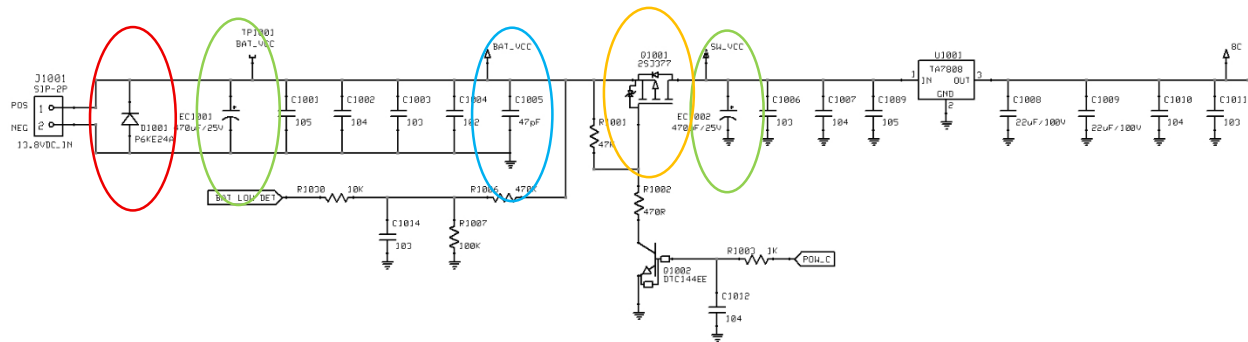
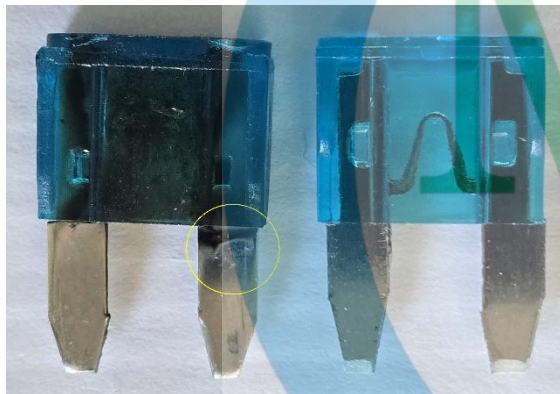

Figure 2 - Schematic diagram excerpt - power inlet and conditioning
Figure 3 - Charred fuse vs. new fuse
OK – so what damage was done to the radio? In this situation, the owner was extremely fortunate. The damage was limited to a charred 15-ampere mini-ATC fuse and a shorted P6KE24A TVS diode, as well as several electrolytic capacitors which had been supplied with voltages well in excess of their maximums. These included a total of four (4) 470 μ F/25V types and one 47 μ F/25V type. The final damaged component was a 2SJ377 MOSFET in the power conditioning circuit. A schematic excerpt detailing the pertinent portion is shown in Figure 2.
The P6KE24A is a unidirectional transient voltage suppressor (TVS) that is installed across the incoming DC supply line (circled in red in Figure 2). This device is rated at 600W, with a reverse standoff voltage (V_R) of 20.50V and a breakdown voltage (V_{BR}) of 22.80V (minimum) to 25.80V (maximum). The clamping voltage (V_C) is 33.2V at a maximum peak pulse current (I_{PP}) of 18.4A. So... what do all of these values mean, and just what does a TVS do... and how does it do it?
in green in Figure 2) and one rated $47\mu\text{F}$ at 25V (circled in blue in Figure 2). Note that only two of the failed $470\mu\text{F}$ capacitors appear in this schematic excerpt – the remainder are located in another circuit branch that tees off this power segment. A single 2SJ377 P-Channel enhancement mode MOSFET (circled in orange in Figure 2) was also damaged. This device failed in a modality that resulted in a short-circuit from drain to source. The failure of the electrolytic capacitors was because the clamping voltage of 33.2V exceeded the working voltage rating of 25V for these capacitors.
The illustration at Figure 3 shows the spent, charred fuse from this radio next to a new 15-ampere mini-ATO fuse for comparison purposes. When I asked the owner to remove the fuse so that we could get an idea of its condition (before I knew about the 120VAC debacle), he said that he could not get it to come out of the fuse holder. As a matter of fact, he could get one side to come up, but not the other. A close look at the spent fuse tells the story. Note the yellow circle in the Figure 2